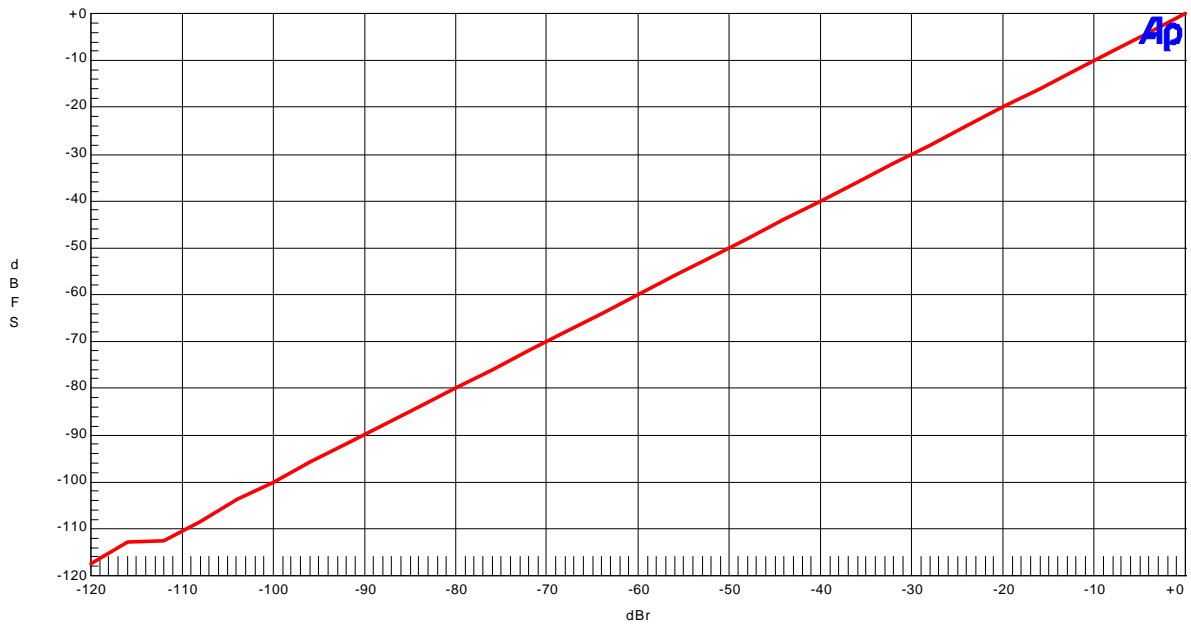

Figure 4. Linearity (fs=48kHz; fin=1kHz)
- Figure 4. Linearity (fin=1kHz)